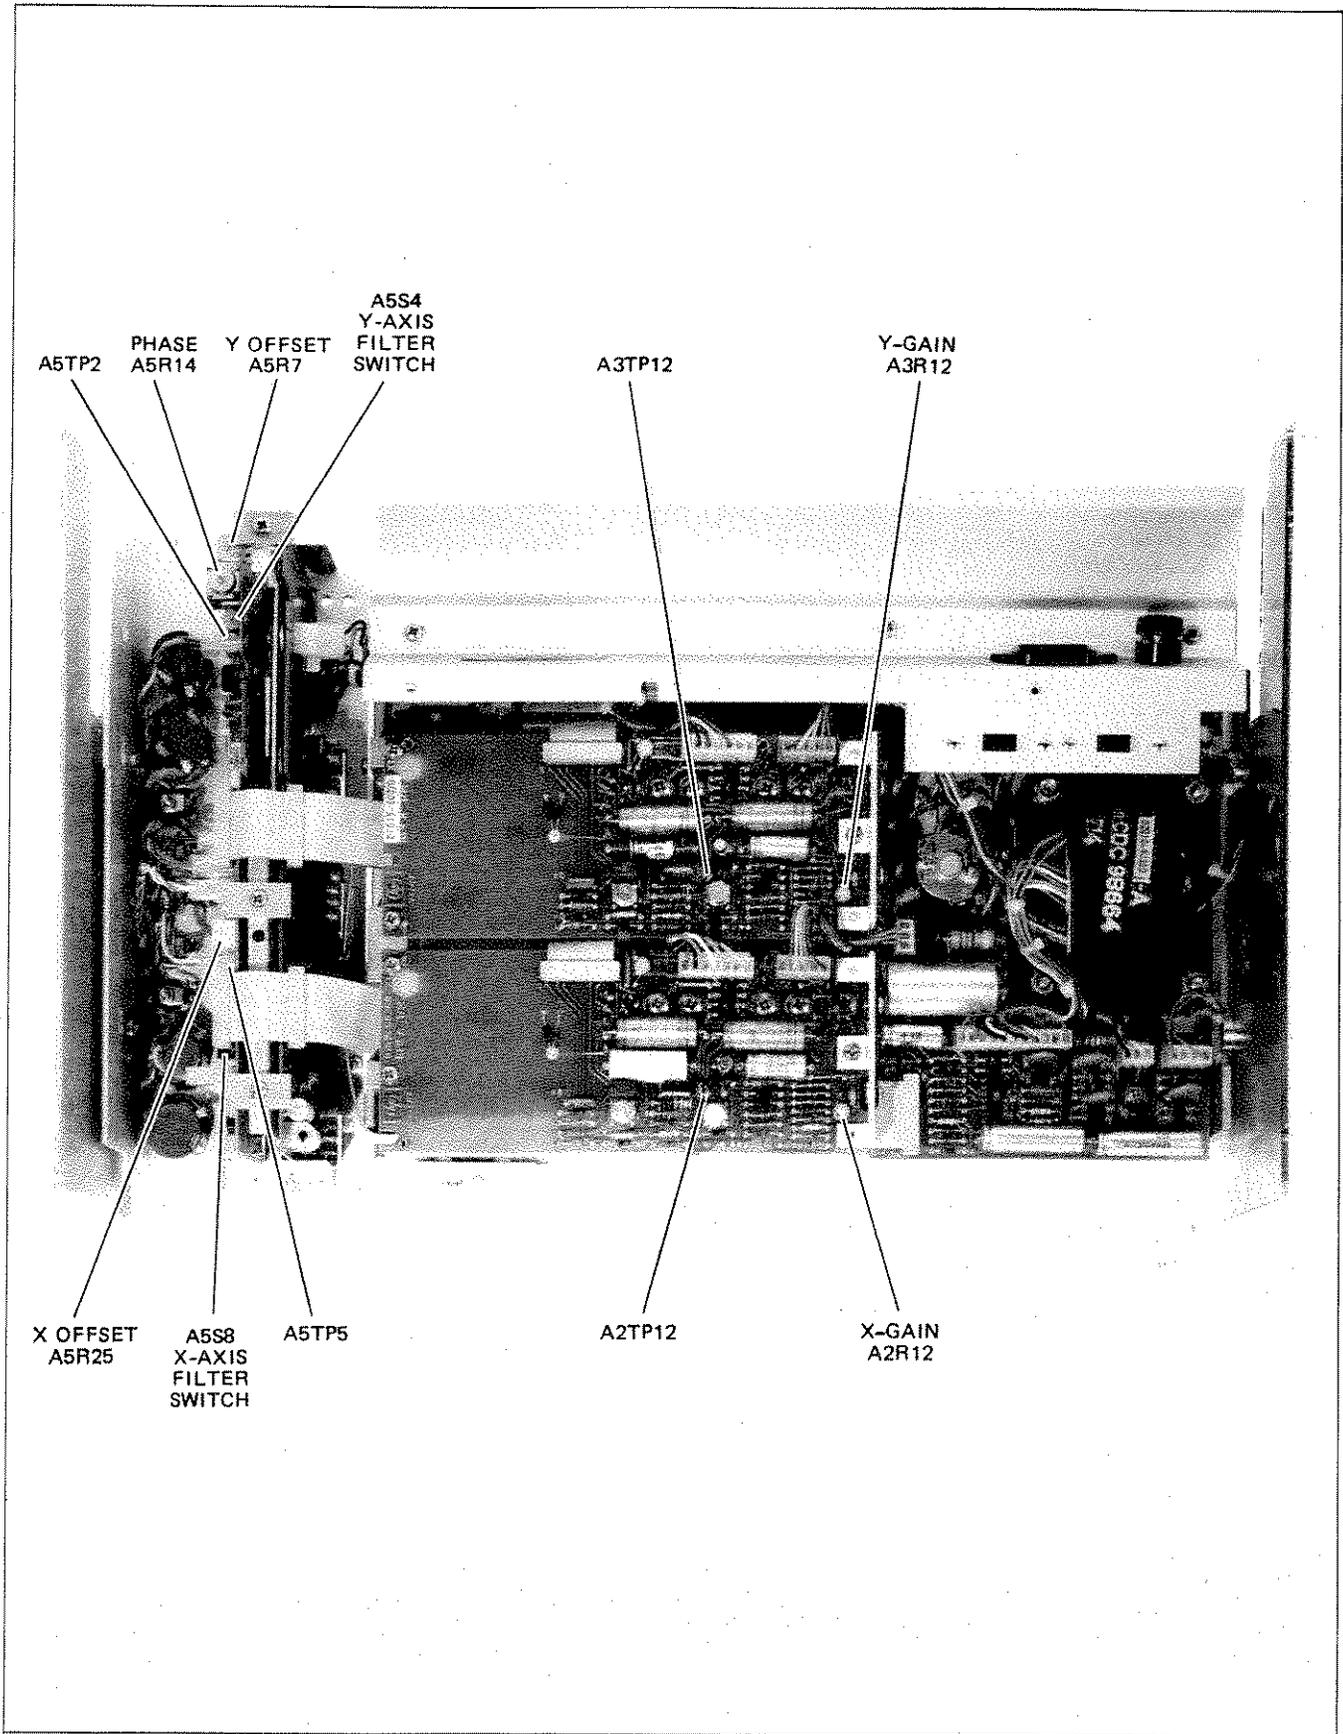

Figure 5-4. Calibration Adjustments and Test Points
- d. Connect an HP Model 3465A Digital Voltmeter between A5TP2 (Y-axis) (+) and A3TP12 (ground) (-). (See Figures 5-4 and 5-5.)
- e. Adjust A5R7 (Y-axis offset adjustment) until the digital voltmeter indicates 0V  $\pm 1.0$  mV. (See Figure 5-4.)
- h. Adjust A5R25 (X-axis offset adjustment) until the digital voltmeter indicates 0V  $\pm 0.1$  mV. (See Figure 5-4.)
- j. If the retraced line is greater than 0.015 in. (0.38 mm) wider, adjust A5R14 Y-phase adjustment for minimum width of the retraced line. (See Figure 5-4.)
j. Adjust A2R12 X-gain adjustment to meet this specification. (See Figure 5-4.)
c. Adjust A3R12 Y-gain adjustment to meet this specification. (See Figure 5-4.)